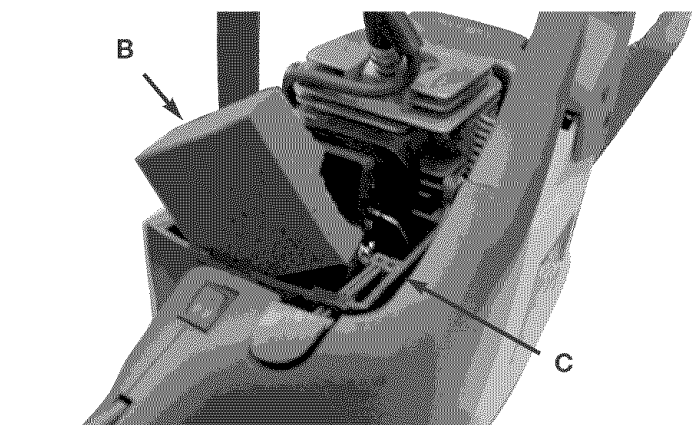

Fig. 26
2. Lift the air filter (B) out of air-box (C) (Fig. 26).